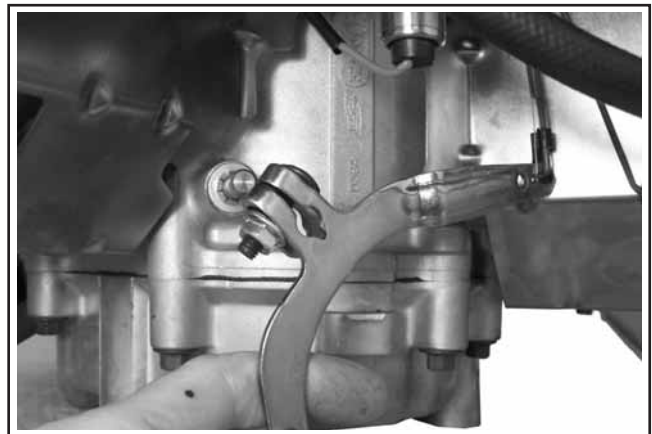

Figure 10-68. Installing Governor Lever to Cross Shaft.
1. Install the governor lever onto the governor cross shaft if disconnected previously. See Figure 10-68.